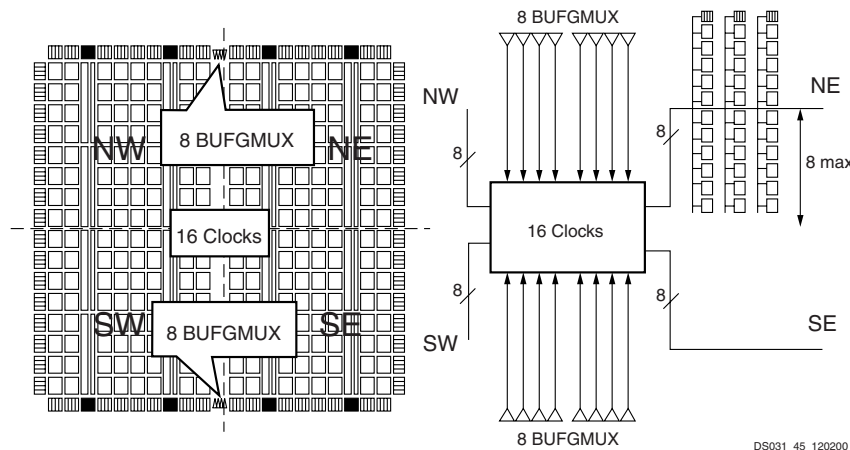

Figure 42: Virtex-II Clock Distribution
**Figure 42** shows clock distribution in Virtex-II devices.